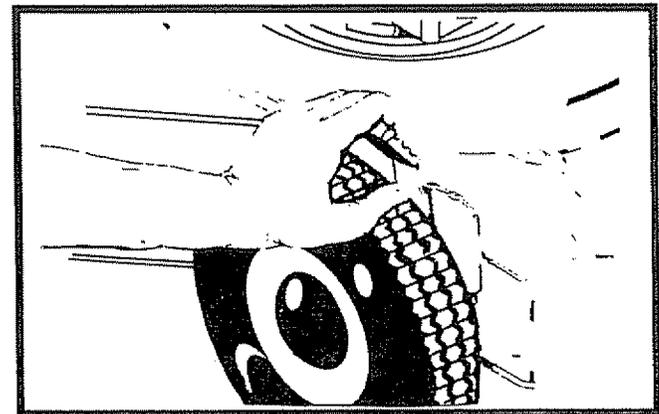

FIG. 11
- To change cutting height, squeeze Adjuster Lever toward Wheel. Move Wheel up or down to suit your requirements. Be sure all Wheels are in the same setting (See Fig. 11).